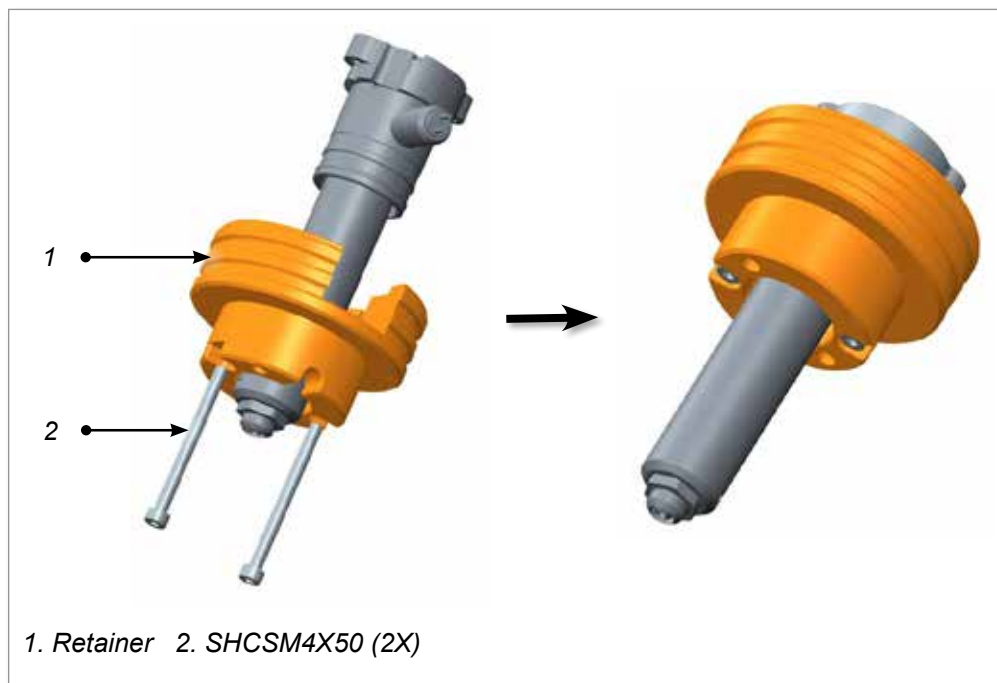

Figure 11-16 Attach retainer to valve bushing
15. Align the nozzle terminal with the slot on the retainer. Seat the nozzle flange on the retainer and fasten the retainer to the valve bushing with socket head cap screws. Torque to 3.6 Nm (2.6 ft-lb). See Figure 11-16.